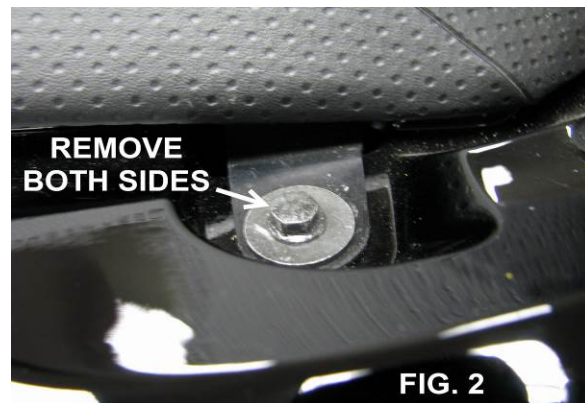

FIG. 3
5. USING A 5MM ALLEN WRENCH REMOVE THE TWO SOCKET HEAD SCREWS SHOWN IN FIG. 3.